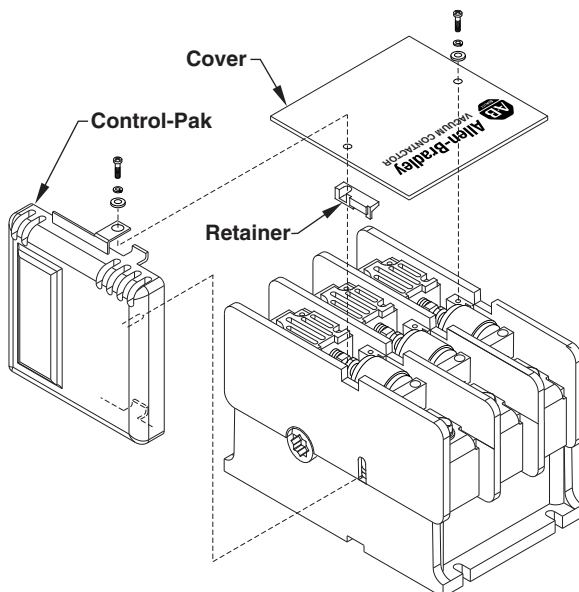
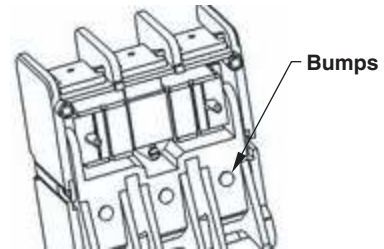
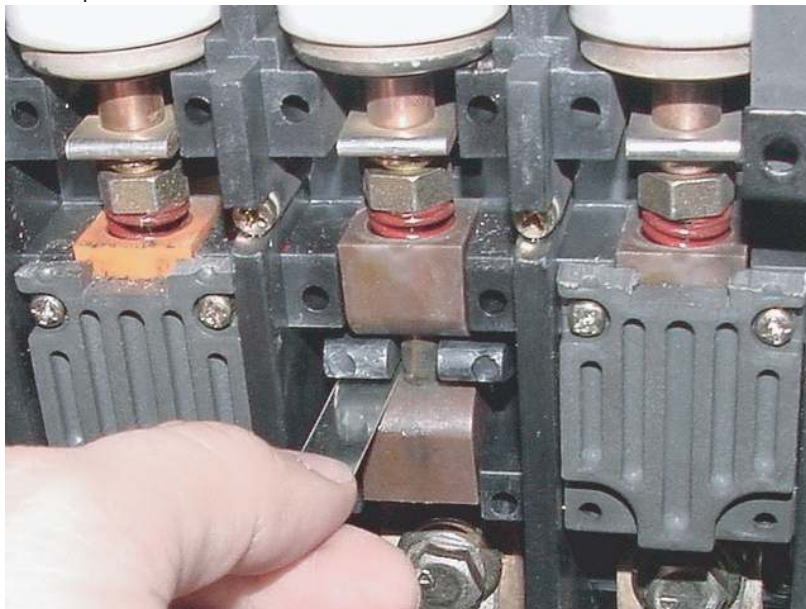

Figure 3A
Figure 3D
Figure 8
3. Remove the cover attachment screws from the contactor and remove the Cover and Retainer (**Figure 3A**).
7. Carefully replace the Upper Housing, ensuring that it is orientated correctly and that the Return Springs are seated on the outer two bumps on the bottom of the Contact Operator (**Figure 3D**). Replace the (6) screws that secure the Upper Housing. Tighten the screws equally in a diagonal pattern approximately two turns at a time until tightened to 12 lb-inches in the same diagonal pattern (**Figure 3A**).
9. Reinstall the cover with Retainer and secure it with the original mounting hardware. Tighten the four screws in a diagonal pattern to 5 lb-inches (**Figure 3A**).
2. Remove the cover attachment screws from the contactor and remove the cover (**Figure 3A**) page 2.
3. Remove the Control-Pak from the contactor (**Figure 3A**) page 2.
5. Reinstall the cover and secure it with the original mounting hardware. Tighten the four screws in a diagonal pattern to 5 lb-inches. (**Figure 3A**).
3. Remove the cover attachment screws from the contactor and remove the cover (**Figure 3A**) page 2.
8. Place the new Interrupter Phase Assembly into the upper housing. Be sure that the Cams are properly seated around the Contact Operator. Thread the Shunt through the housing and Contact Operator, following the Shunt path (**Figure 7C**). Replace the hardware securing the Interrupter Phase Assembly (**Figure 7B**). Tighten screws to 60 - 80 lb-inches. The replacement interrupter is **factory set** for contact gap and **does not** require adjustment in the field. Attach the Shunt to the load terminal by placing the Shunt against the terminal with the flat washer and lock washer between the Shunt and the head of the bolt (**Figure 7A**) and tighten until the lock washer is fully compressed (or up to 60 lb-inches). Replace the Cam Cover and hardware (tighten to 60 - 80 lb-inches). Reinstall the Cover and secure it with the original mounting hardware. Tighten the four screws in a diagonal pattern to 5 lb-inches (**Figure 3A**). Reattach the coil wire leads to the Control-Pak (tighten to 7 - 9 lb-inches). Reinstall the device and reconnect any auxiliary control wires. Reconnect the line and load conductors and tighten the main terminal hardware and bolts to 132 lb-inches.
2. Remove Phase Cover as described (**Figure 3A**) page 2, earlier to access inspection area (**Figure 8**).